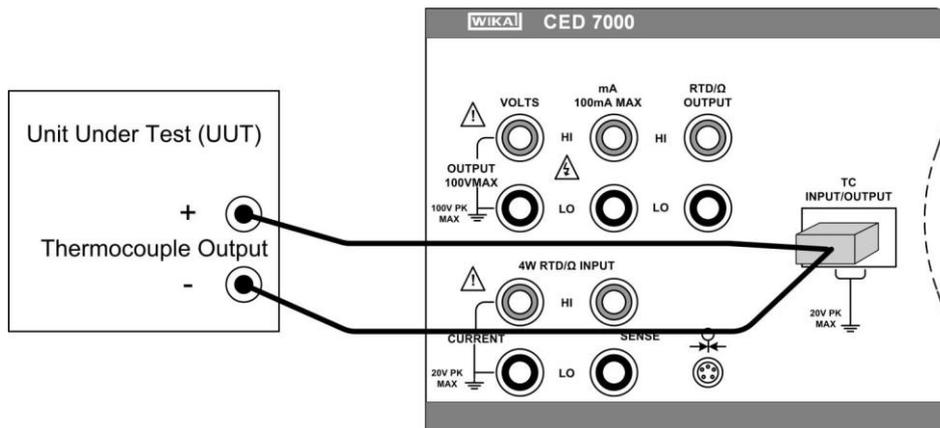

Figure 15 - Thermocouple Output Connection
- e) Connect the unit under test to the thermocouple terminals of the CED 7000 using a standard T/C miniplug as shown in figure 15. One pin is wider than the other; do not attempt to force the plug in the wrong polarization. The T/C wire used for the connection must match the thermocouple type selected for proper cold junction compensation. If the CED 7000 and the T/C miniplug are at different temperatures, wait at least 3 minutes for the miniplug and terminals to stabilize to the same temperature.